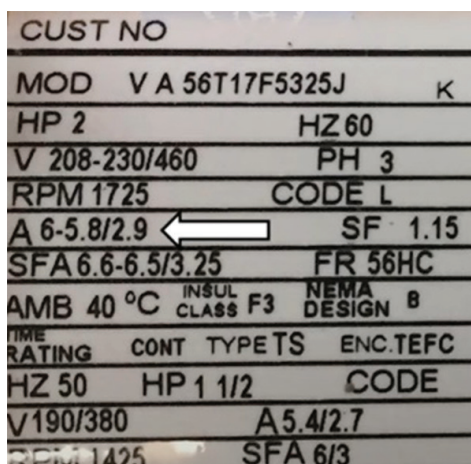

Fig 5: Retrieved from [MotorLabels]
The cost of electricity for a 3-phase motor is measured in a kilowatt hour and the formula to calculate the power consumed by a motor in wattage (W) is $A \cdot V (\sqrt{3})$, where A is the ampere, V is volts, and $\sqrt{3}$ is 1.73. See the motor label in Figure 5 as an example. In this example (See Appendix B for a written-out version of this example), the motor uses 208 V and 6.5 A. Using the equation to solve for power, $W = 6.5 \cdot 208 \cdot 1.73 = 2339$ watts. As electricity is based on kilowatts, 2339 W is equal to 2.3 kW. If the motor runs 8 hours/day for 5 days, which averages at 173.3 hours per month, then $(2.3 \text{ kW} \cdot 173.3 \text{ hours/month}) = 399 \text{ kWh}$ each month. This multiplied by a rate of \$0.10/kWh will cost \$39.90 [Sciencing]. For the purposes of these guidelines, calculating the kWh for each motor (based on time used in the process) will be helpful in identifying energy used per process.